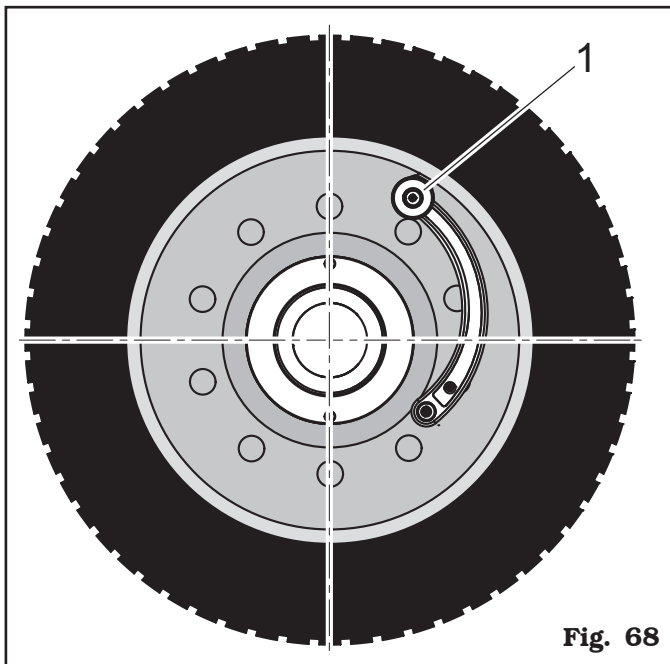

Fig. 68
Bring the gauge ferrule (**Fig. 68 ref. 1**) on the inner edge of the wheel UPWARDS, touching the diameter point used previously for the "A" measurement detection (**Fig. 67**), display D2 will show a bit value.